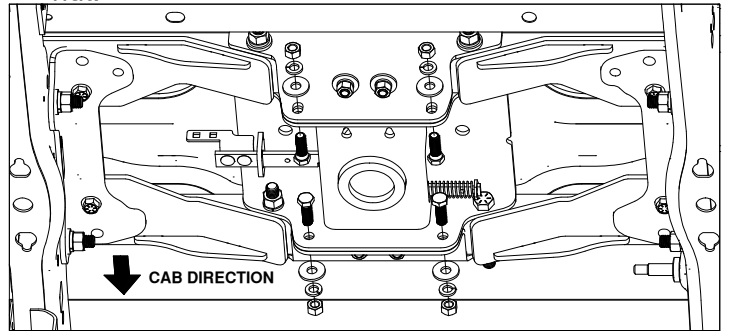

Figure D6: View looking up under the truck bed.
6. **Install center section bottom cap screws.** Place four 1/2" x 1-1/2" cap screws into the four holes in the bottom of the center through the two cross member braces, as shown in Figure D6. Loosely secure the cap screws with a 1/2" flat washer, lock washer and nut.